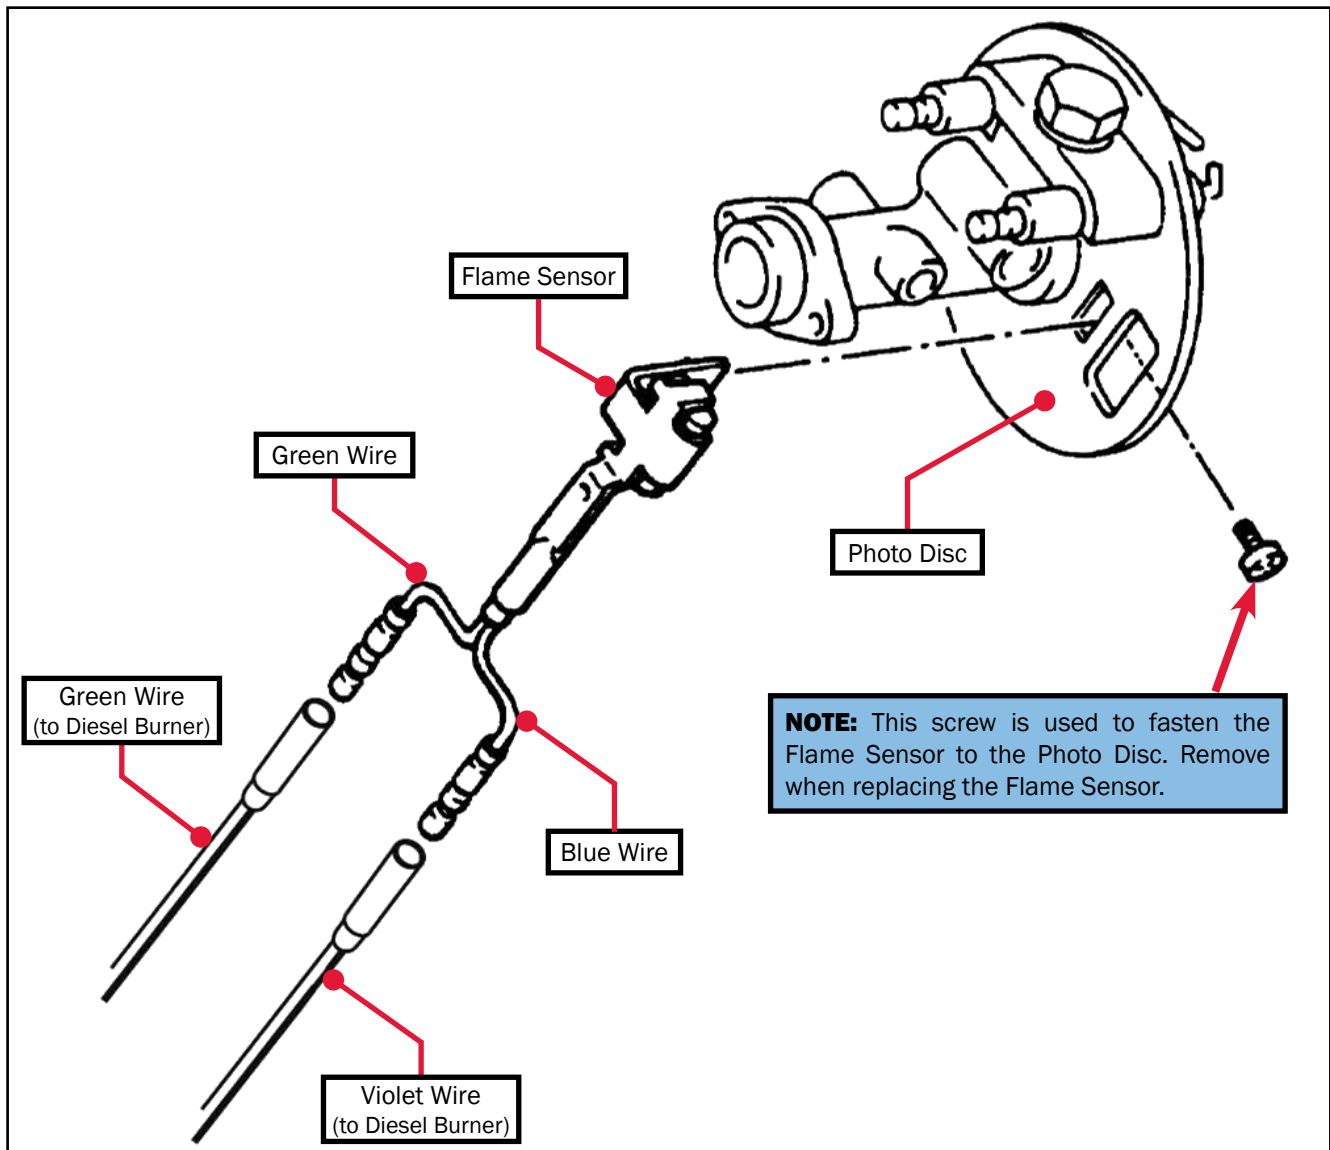

Figure 110
2. Remove the screw that fastens the flame sensor to the photo disc (as shown in Figure 110), and detach the flame sensor's green and blue wires from the C-plug harness' green and violet wires. Remove the defective flame sensor.